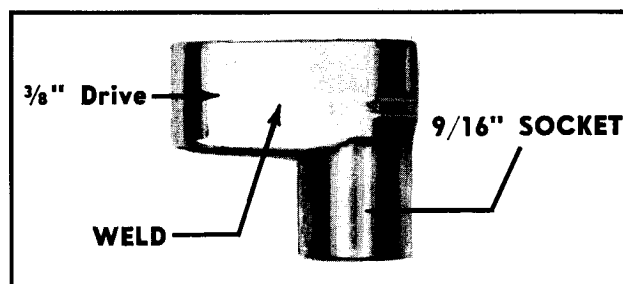

Fig. 12-66. Special adaptor for crosshead adjustment
- (1) Cut a 3/8 drive from a socket or extension.
- (2) Weld 3/8 inch drive to 9/16 inch socket as shown. Fig. 12-66. Square holes of both drive and socket must be parallel and flush. No spacer material is needed between drive and socket.